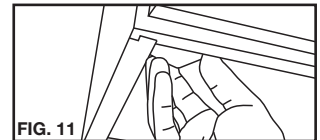

FIG. 11
- After determining its desired location, follow the Tool-Free application steps (see **FIG. 11**). Before mounting, be sure to leave room for the jumper wires, which will connect on one or both sides of the control box (depending on your configuration).